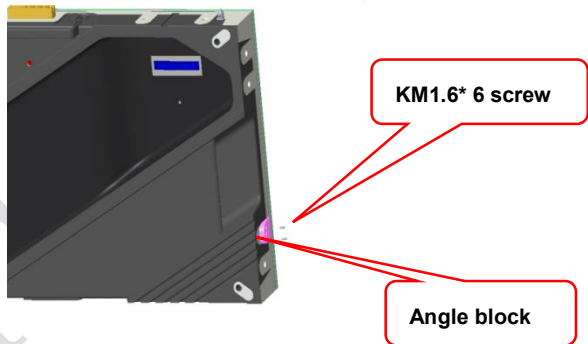
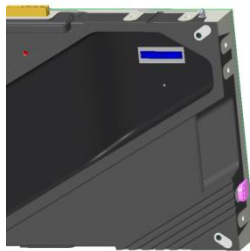

Figure 2-20 Installing angle block 1
Figure 2-21 Installing angle block 2
- 2) Assemble the cabinet from the bottom to the top, from the middle to both sides. Fix the angle block on the screw hole on the right side of the cabinet with KM2 * 6 screw, as shown in Fig. 2-20 and Fig. 2-21;